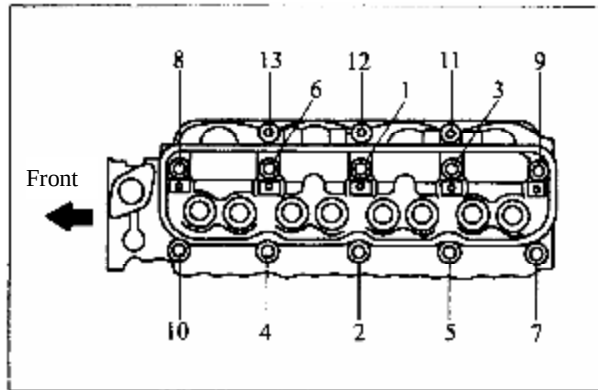

Figure 3-2 Tightening Sequence of Cylinder Head Bolts
Tighten the bolts after the gasoline engine has cooled down. The tightening sequence is as shown in Figure 3-2.
3.1.3 After the gasoline engine has cooled down, follow the sequence that is reversed to these indicated in figure 3-2 to disassemble the cylinder head. Unscrew the bolts of cylinder head step by step in 3 times to avoid distortion of cylinder head.